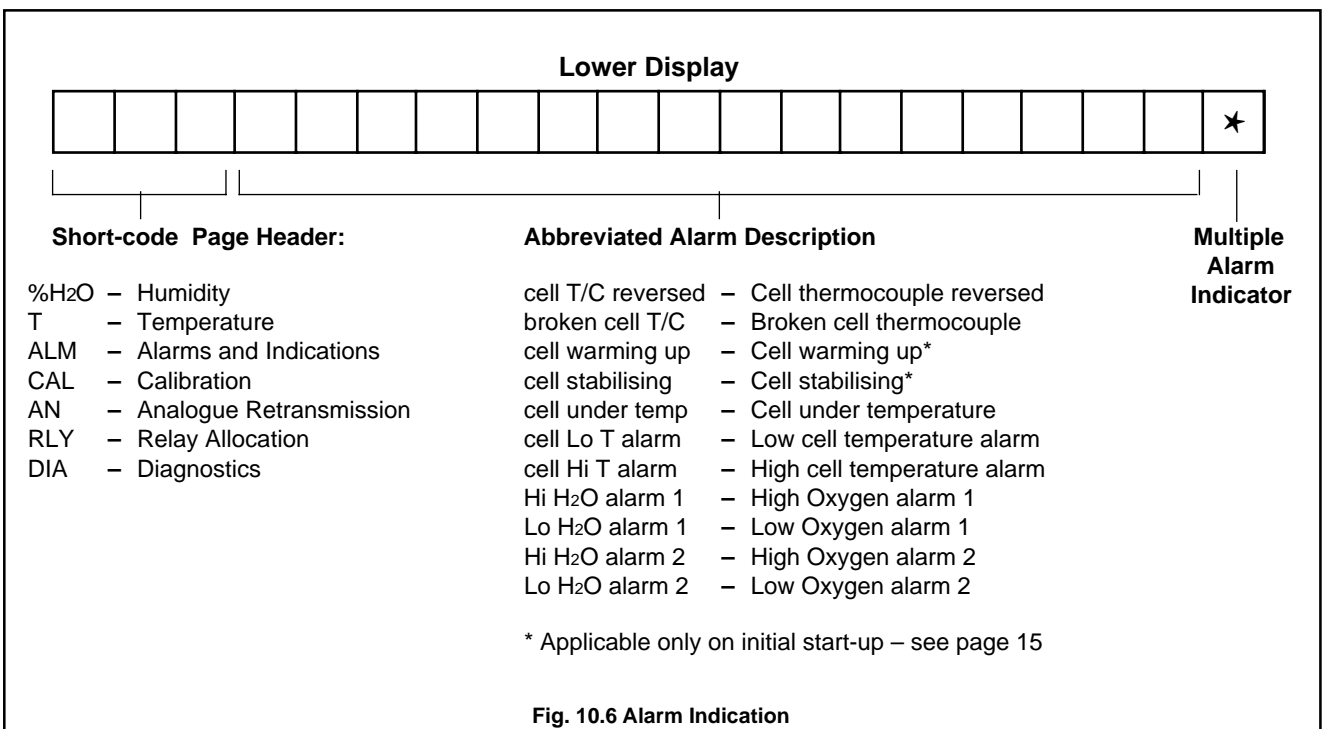

Fig. 10.6 Alarm Indication
10.2.4 Alarm Indication - Fig. 10.6
In the event of an alarm, short-code page header description and abbreviated alarm description are shown on the lower display – see Fig. 10.6.